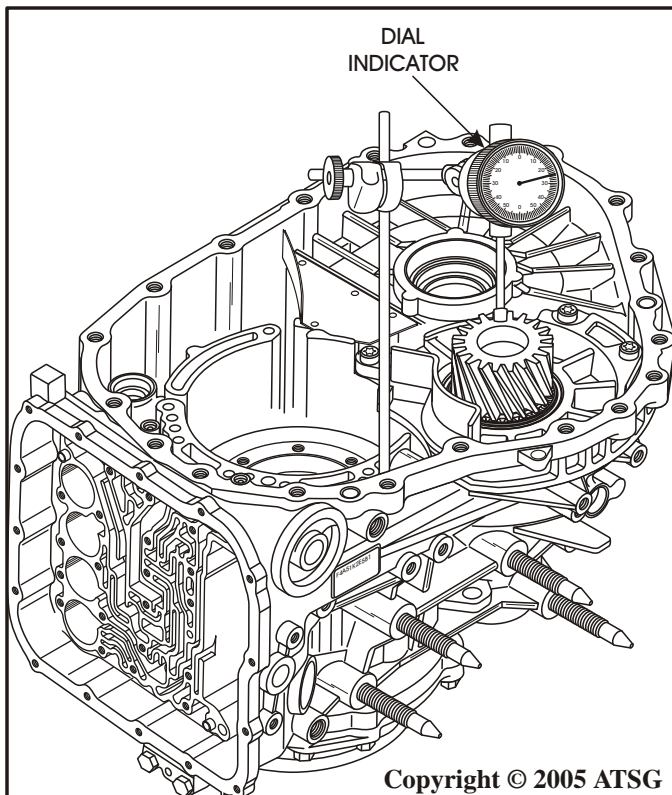

Figure 156
- This procedure was based on you having the spacer in your unit. If the spacer is lost you must start from scratch. You will have to install the small bearing race without the spacer, and torque the nut to specification. Then measure the end play of pinion with a dial indicator, as shown in Figure 156. Then you can choose a spacer from the chart that is approximately .002" thicker than your dial indicator reading.